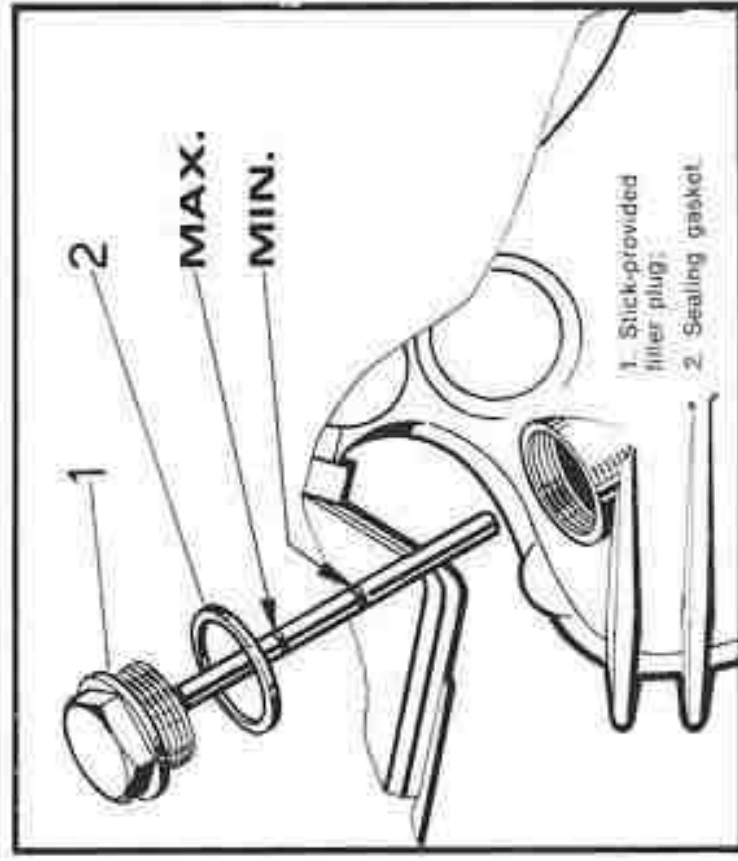

Fig. 5
3) Extract the stick and verify the oil level which must be within the « Min. » and « Max. » notches (see Fig. 5).